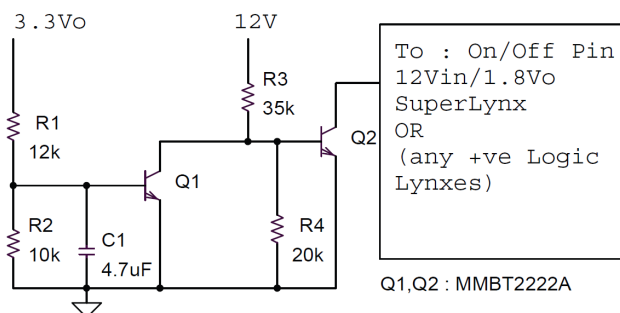
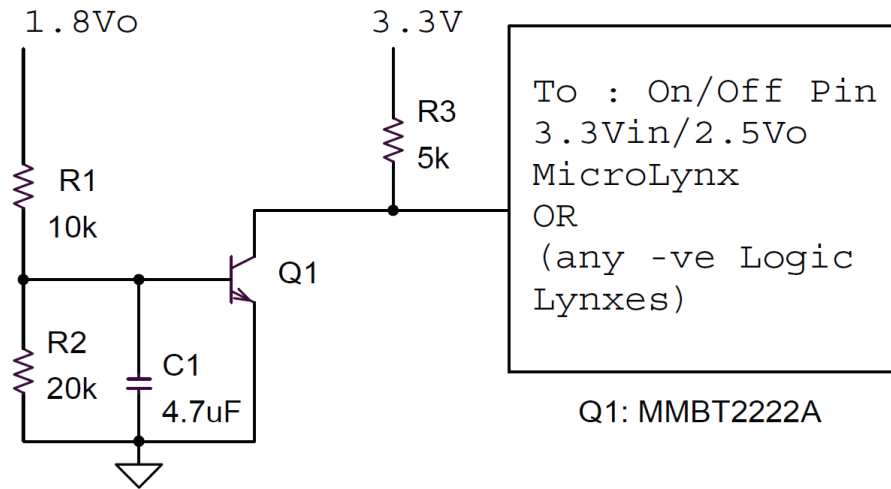

Fig. 3 Turn-on Interface Circuit for 3.3Vo to 1.8Vo SuperLynx (or any +ve LOGIC Devices).
Fig. 4 Turn-on Interface Circuit for 1.8Vo to 2.5Vo MicroLynx (or any -ve LOGIC Devices).
2. The $3.3V_o$ is used as a signal to a time delayed On/Off interface circuit (see Fig. 3) that turns on the $1.8V_o$ unit. The $2.5V_o$ unit remains off.
3. Lastly, the $1.8V_o$ is then used as a signal to another time delayed On/Off interface circuit (see **Fig. 4**) for the $2.5V_o$ uLynx.
Circuit Details: See **Fig. 3** for Turn-On Interface circuit for positive Logic modules and **Fig. 4** for negative Logic modules.